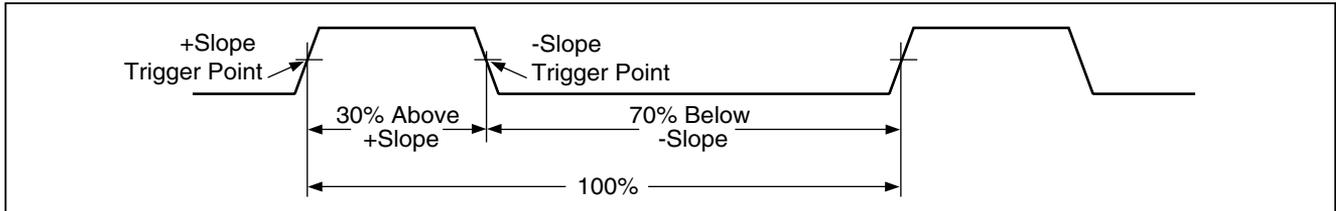

Figure 9. Components of Duty Cycle Measurements
To measure frequency, connect the Meter to the signal source; then press . Pressing  switches the trigger slope between + and -, as indicated by the symbol at the left side of the display (refer to Figure 9 under "Measuring Duty Cycle"). Pressing  stops and starts the counter.
Duty cycle (or duty factor) is the percentage of time a signal is above or below a trigger level during one cycle (Figure 9). The duty cycle mode is optimized for measuring the on or off time of logic and switching signals. Systems such as electronic fuel injection systems and switching power supplies are controlled by pulses of varying width, which can be checked by measuring duty cycle.
2. Press  a second time to measure the signal's duty cycle. Press  to select a measurement of the signal's positive or negative pulse, refer to Figure 9.